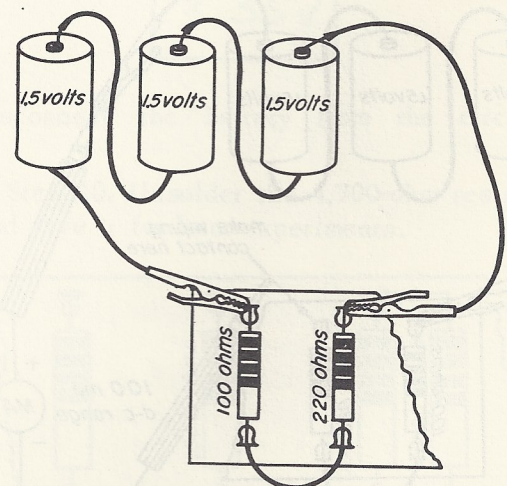

Fig. 9-1
Step 2. Solder the other end of the same lead to the 100-ohm resistor, as shown in Fig. 9-1.
Step 4. Clip the negative terminal of the battery to the free end of the 100-ohm resistor. Connect the positive terminal to the free end of the 220-ohm resistor, as shown in Fig. 9-1.